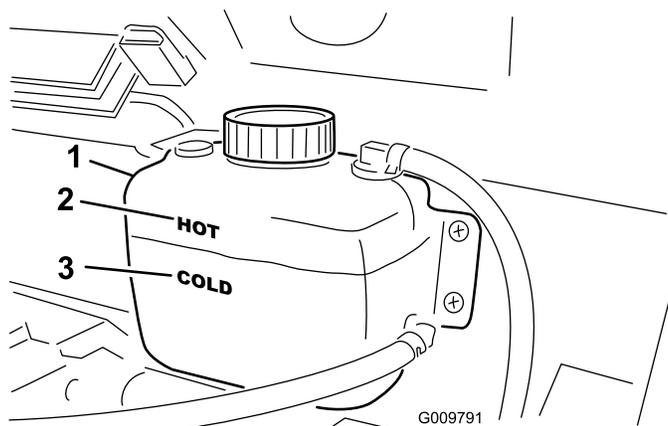

Figure 18
2. Check the coolant level on the side of the reserve tank (Figure 18). The coolant should be up to the Cold line, when engine is cold.